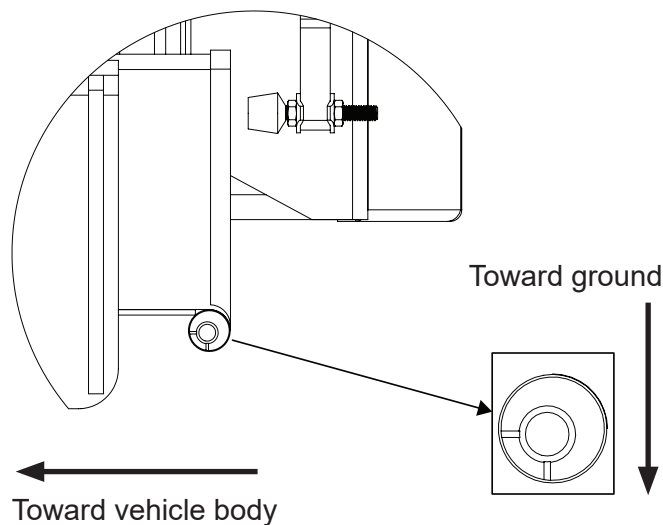

Figure 6
12. Place one bushing against each tube opening, orienting the bushing so one machined mark faces down to the ground and the other faces toward the vehicle body (Figure 6).